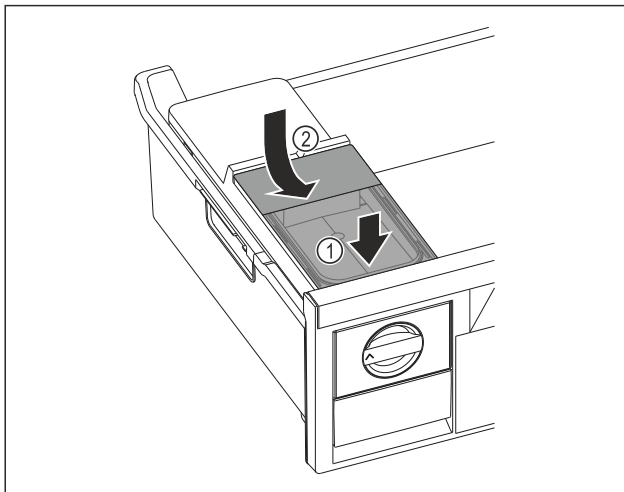

Fig. 125
- Position the water tank at the front. Fig. 125 (1)
- Lower the water tank at the rear. Fig. 125 (2)